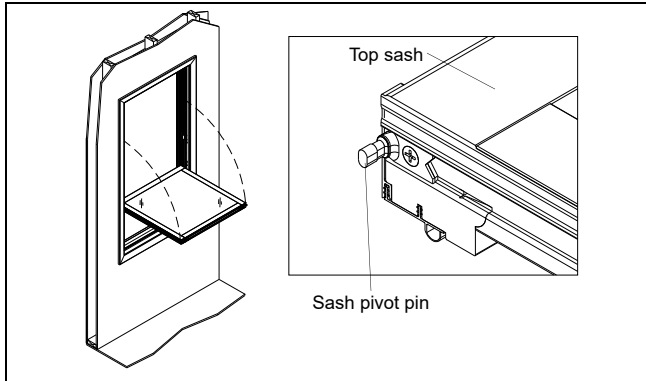

Figure 27 Interior view
27. Ease top of sash toward you to a horizontal position. Lift both sides of the sash upward 2"-3" (51-76) (raising pivot pins out of each clutch). See figure 27.